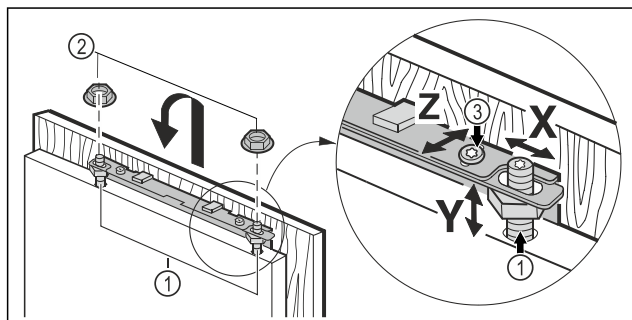

Fig. 21
- ▶ Hook the unit door onto the adjustment bolts Fig. 21 (1) and screw the lock nuts Fig. 21 (2) loosely onto the adjustment bolts.
- ▶ Align the unit door in height Y and in the lateral inclination: Adjust the adjustment bolt Fig. 21 (1) with a screwdriver.
- ▶ Tighten the lock nuts Fig. 21 (3).